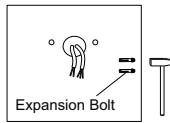

Fig. 7
- 5.) Insert expansion bolts (anchor bolts) into the holes drilled in step 4 (**Fig. 7**).